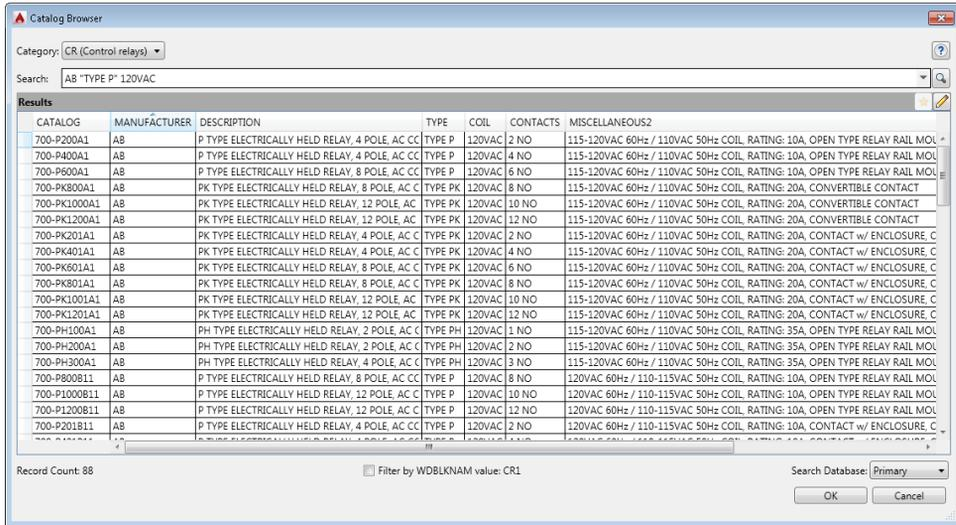

Figure 6-57 The Catalog Browser dialog box
- Choose the **Catalog Lookup** button; the **Catalog Browser** dialog box is displayed, as shown in Figure 6-57.